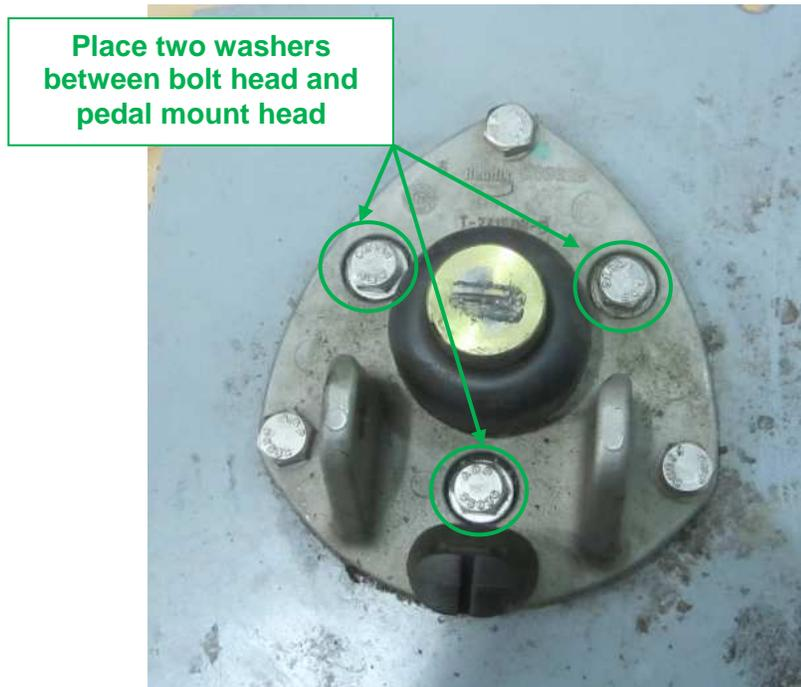

Figure 15: Pedal Mount
- ☞ **NOTE: Place two washers between the bolt head and the pedal mount, see Figure 15.**